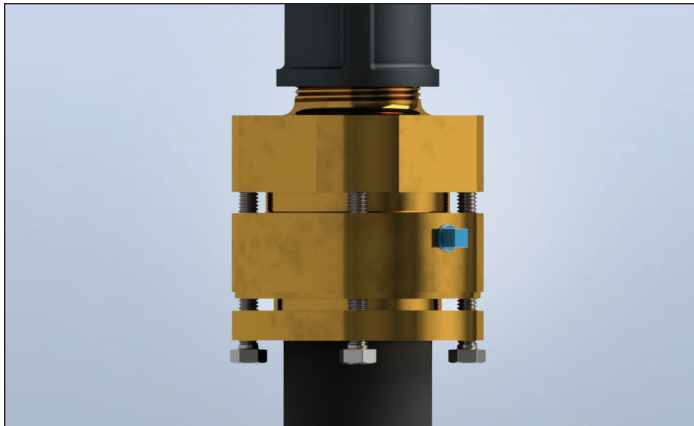

Figure: 1-11
13. Apply pipe dope or thread sealant to the NPT threads of the Front Pipe Flange as needed. Tighten the NPT threads of the Front Pipe Flange into the NPT threads of the mating pipe component. Sealants are to be used on the NPT connection only (Figure 1-11)!